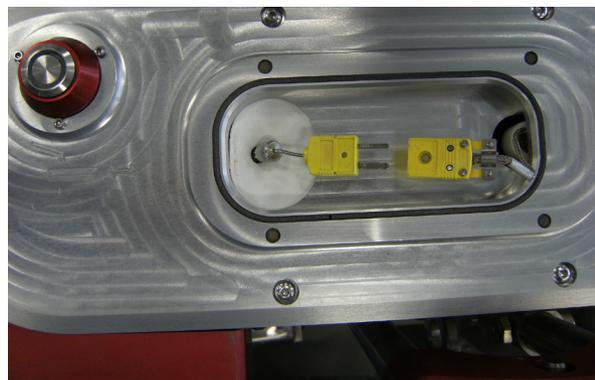

Figure 28: In-probe melt level detector connector
2. Disconnect the yellow connector, refer to Figure 28.